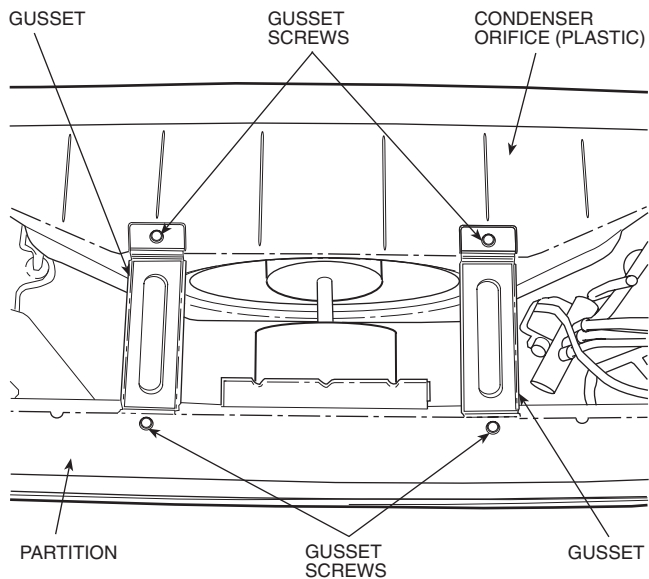

FIGURE 12 — GUSSET REMOVAL
■ REMOVE THE GUSSETS (See Figure 12)